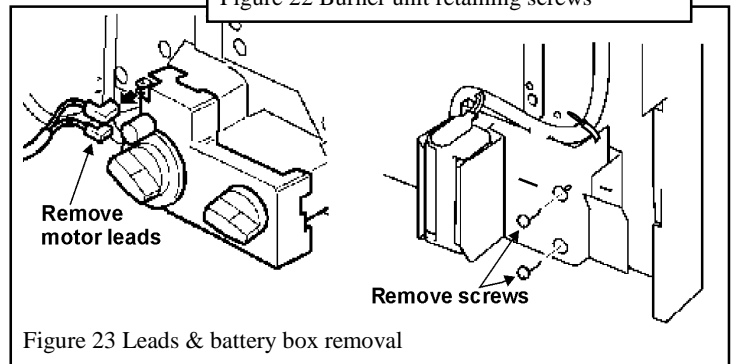

Figure 23 Leads & battery box removal
- Disconnect the two motor leads from the top left of the gas valve. See figure 23.
- Detach the battery box from the fire unit by removing two screws. See figure 23.